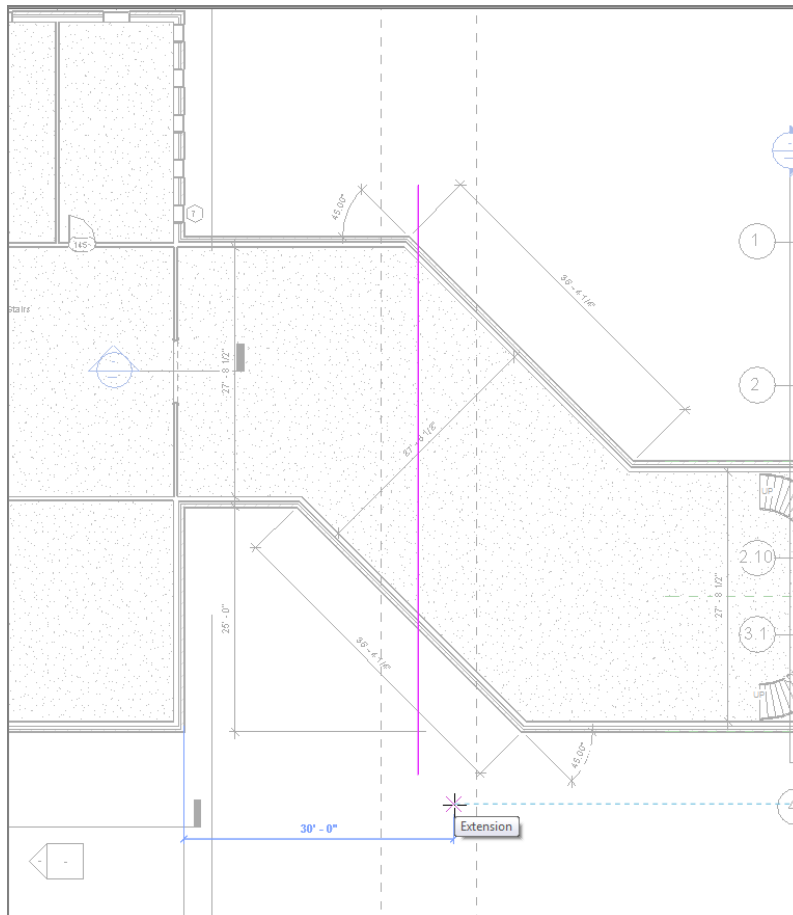

FIGURE 13.10: Placing the match line
5. Draw the match line as shown in Figure 13.10.